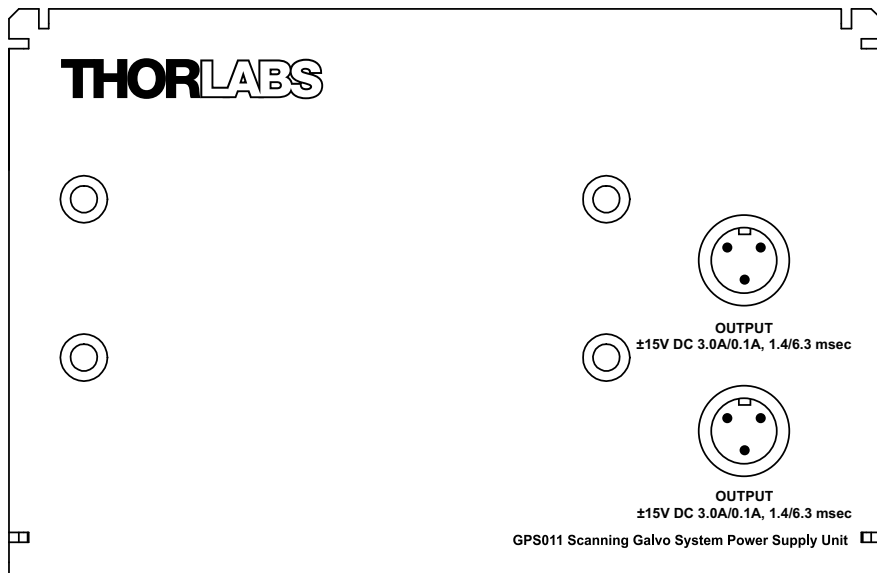

Fig. 3.1 Connecting the Power Cable to the PSU
- 1) The circular 3-pin connector on the power output cable and the OUTPUT socket on the PSU are fitted with alignment keyways to ensure connection in the correct orientation. Check for correct orientation of the alignment keyways, then make connections as shown in Fig. 3.1.